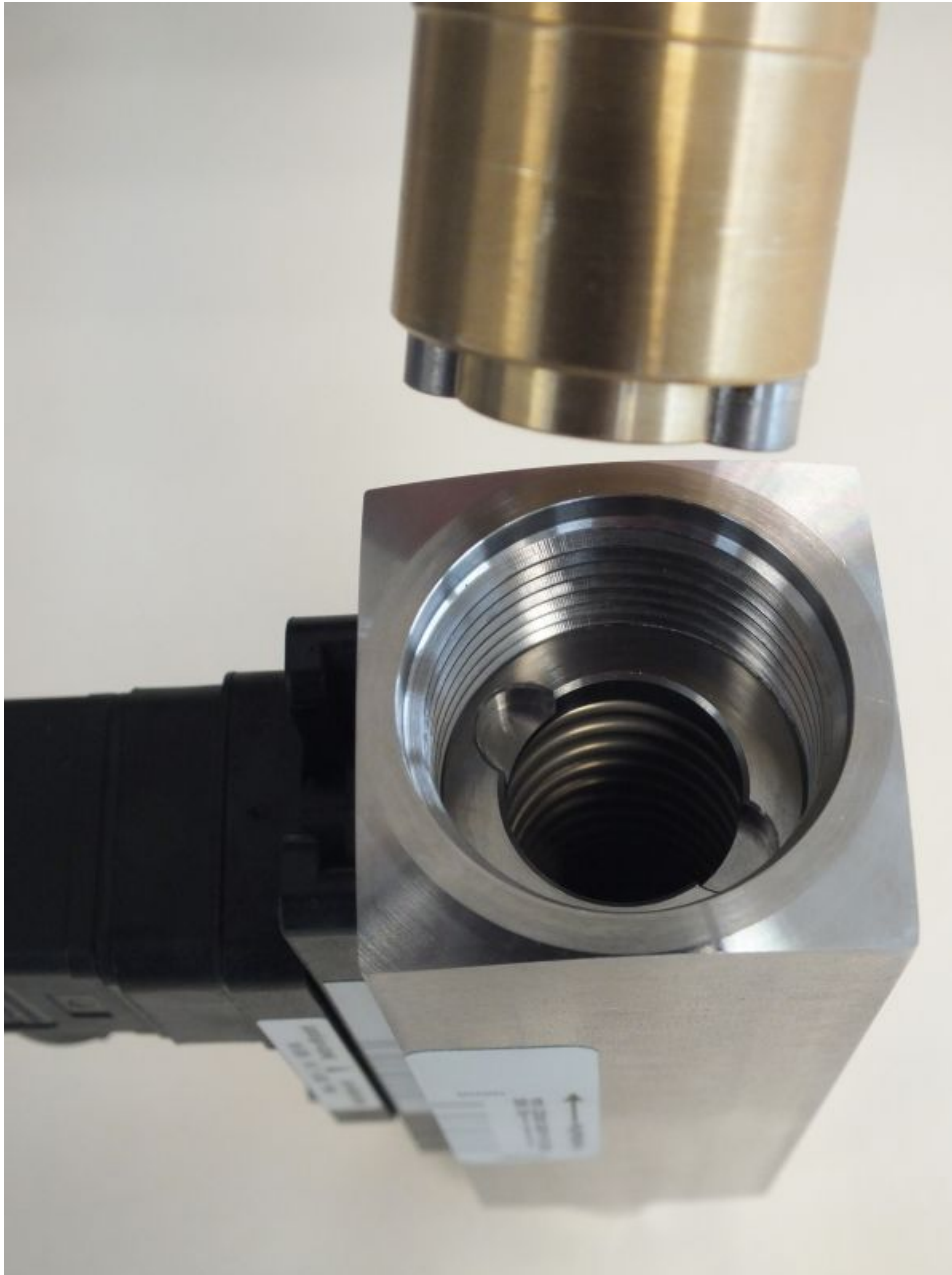

Fig. 50: Insert threaded ring insertion tool (outlet)
- 8.** ➤ Insert the threaded ring insertion tool into the device outlet (*Fig. 50*) and turn until it rests in the keyway of the threaded ring